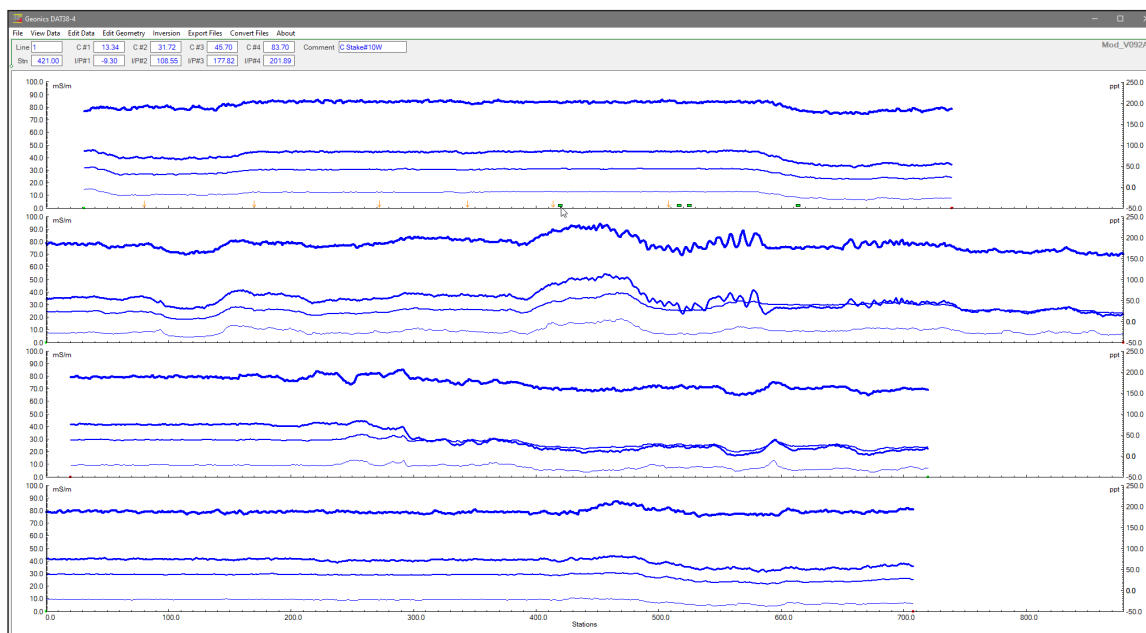

Figure 2.7 DAT38-4 screen with stacked profiles
The Select Profile File window displays available files with the .F38 extension. Once the file is loaded, the data is shown in a stacked profile format (Figure 2.7).
1. Plot Type: Choose **Profiles Display Only** (Figure 2.7 above), **Vertical Section Only** (Figure 2.12), or **Both** (Figure 2.13).